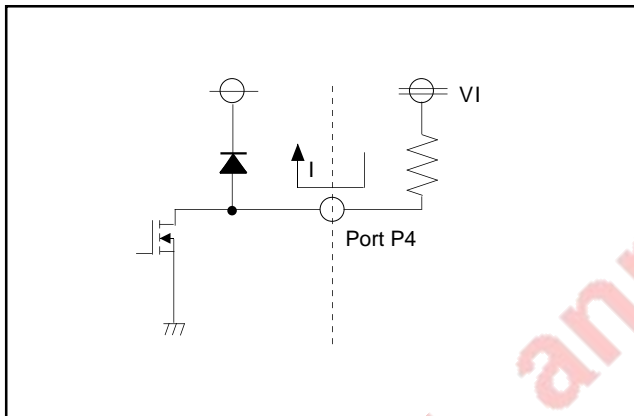

Fig. 54 Note on use of port P4
**4** : When applying a voltage through a resistor as shown in the figure 54, VI > VCC may be accepted if the current is 1 mA or less.